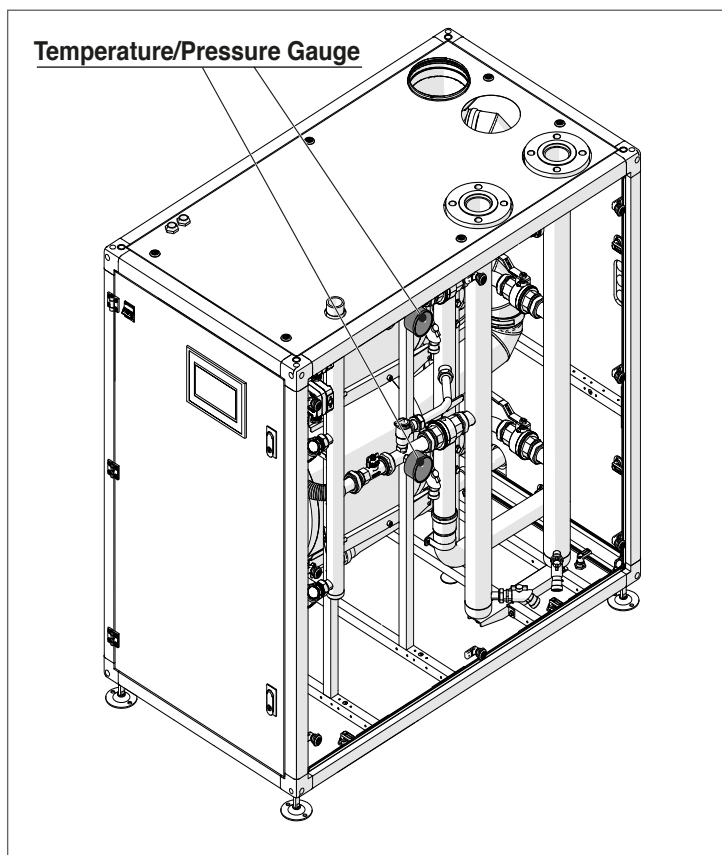

Fig. 47 Temperature/Pressure Gauge location
- Open the fill valve and proceed to fill the heating system and boiler until the pressure gauge (shown on Fig. 47), reads the pressure for which the heating system is sized. The heating system water pressure must be higher than 7.5 PSI (0.52 bar).
Open the filling valve and check the pressure on the temperature/pressure gauge of Fig. 47.